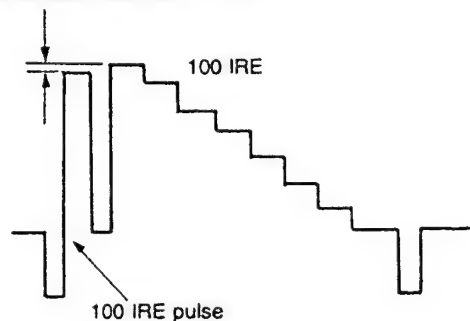

Fig. 2-12.
3. As shown in Fig. 2-12, adjust the R 100 IRE data so that the 100 IRE level and 100 IRE pulse level of the signal become equal.
5. As shown in Fig. 2-12, adjust the G 100 IRE data so that the 100 IRE level and 100 IRE pulse level of the signal become equal.
7. As shown in Fig. 2-12, adjust the B 100 IRE data so that the 100 IRE level and 100 IRE pulse level of the signal become equal.